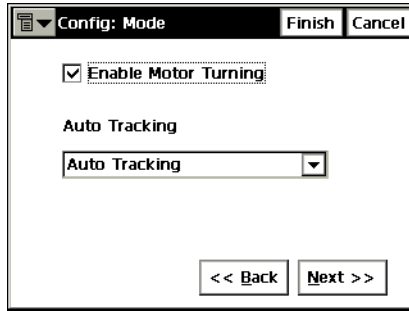

Figure 3-51. Config: Mode
7. For the motorized instruments in the Conventional mode of operation, enable the motor turning in the **Config: Mode** screen (Figure 3-51 on page 3-36). Also, the instrument can be set with auto tracking or auto aiming tasks: